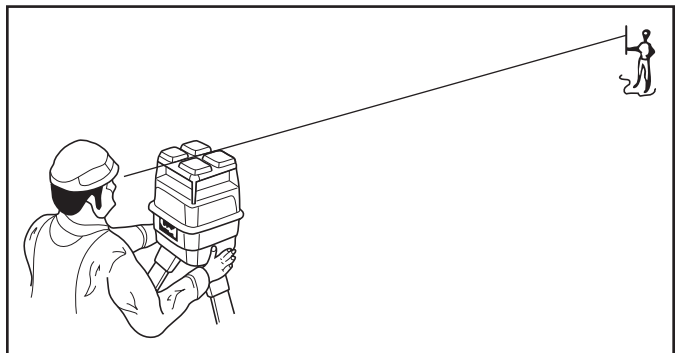

Figure 38. Sight Over Rotating Laser.
4. Roughly align one of the axis to the grade stakes by sighting over the top of the Rotating Laser (Refer to Figure 38).